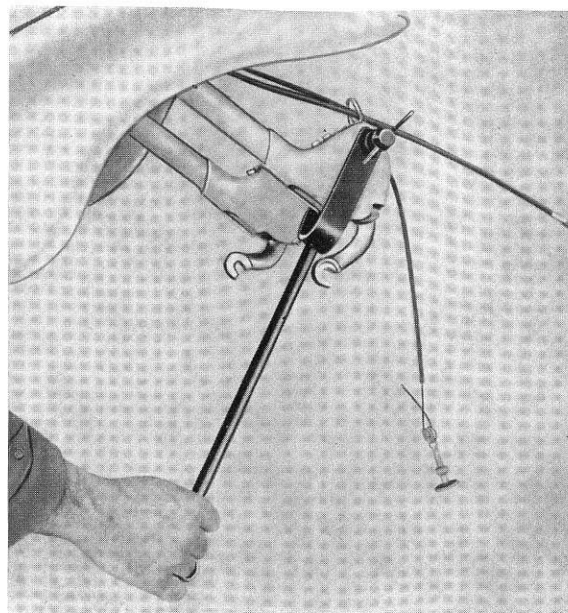

Fig. 38
- 60** To remove the trailing links; fit Tool No. 58021 and compress the suspension spring to remove the lever. See Fig. 38.